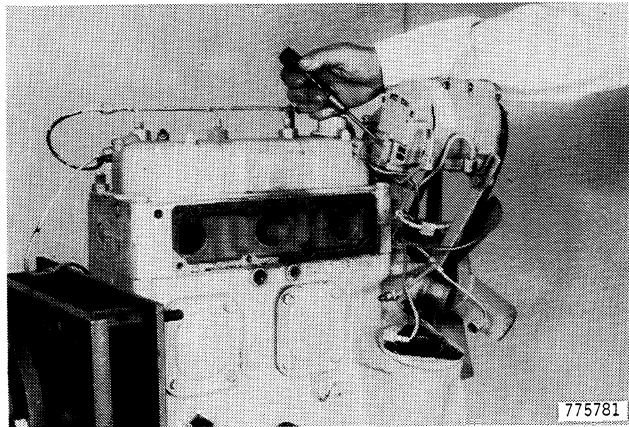

Figure 35
10. Disconnect the clip that holds the alternator electrical connecting plug, Figure 35.